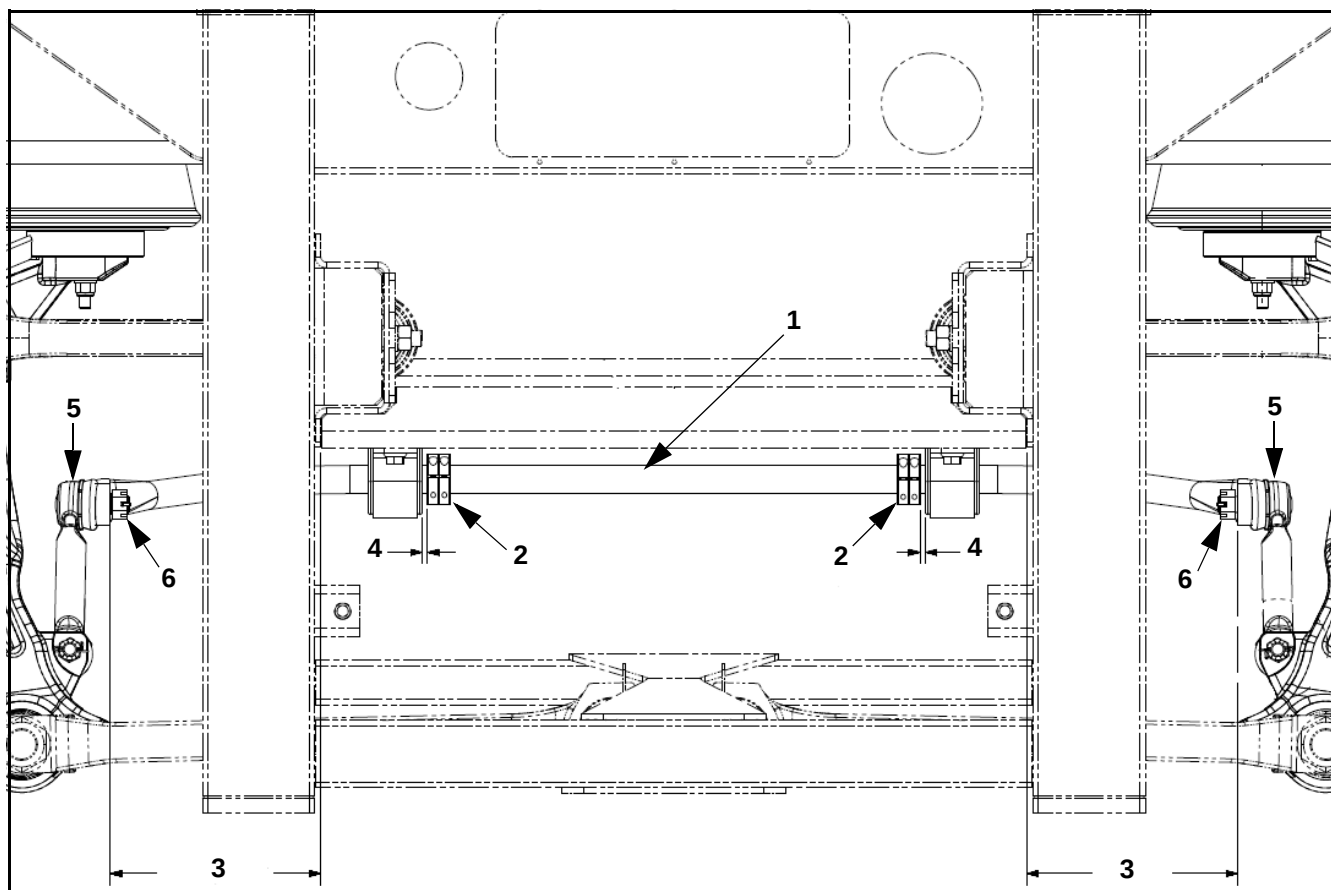

Figure 2. Sway bar installation.
DO NOT remove the existing sway bar links (refer to Figure 2 / Item 5).
Loosen only, DO NOT remove the existing nut from the sway bar link assembly (refer to Figure 2 / Item 6).
4. Install the new sway bar and service kit components as shown in Figures 2 and 3.
Item	Figure 2 Description